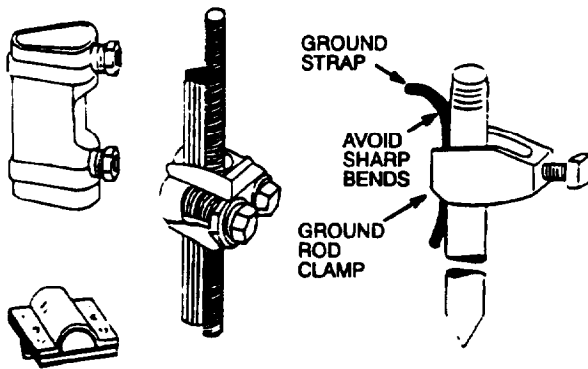

Figure G-4.
(1) Use the terminal screw on the ground rod. If it is missing or broken, connect the ground strap (or heavy wire substitute) with a tight-fitting clamp as shown in figure G-4.